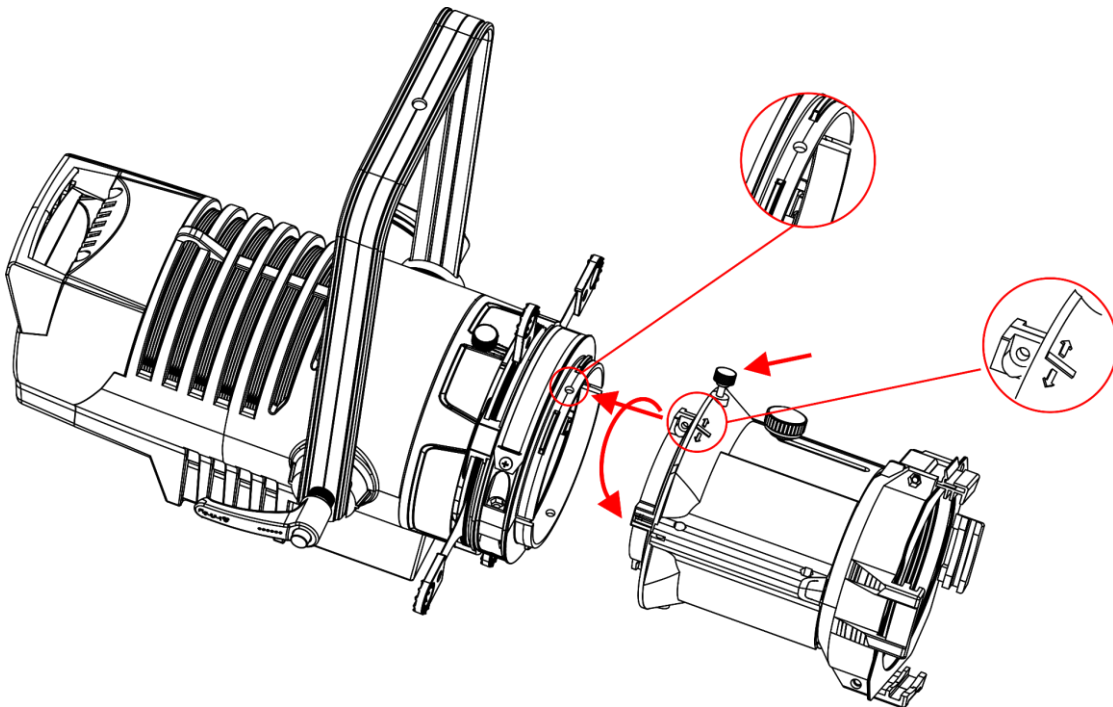

Fig. 05
- 02) Insert the cutout into the slot of the fitting at the marked spot, see fig. 05.